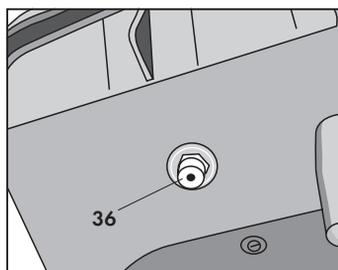

Fig. 33
- b) Unscrew the drain cap (36) (fig. 33); drain the boiler and tighten the cap again.
- e) Unscrew the drain cap (36) (Fig. 33) and let the scale remover out. Rinse the boiler repeatedly until the scale removing product is eliminated completely.